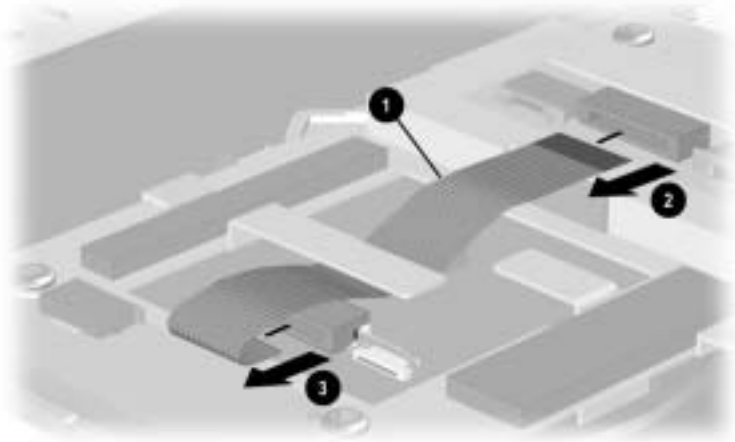

Figure 5-33. Removing the TouchPad-to-TouchButton Board Cable
5. Disconnect both ends of the TouchPad-to-TouchButton board cable ❶ from the low insertion force (LIF) connectors on the TouchPad ❷ and TouchButton board ❸ (Figure 5-33).